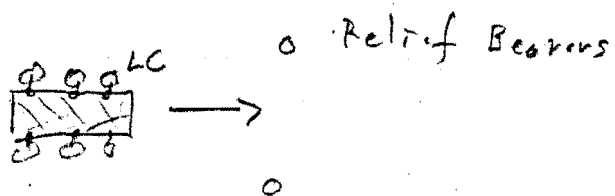

Figure 5.2. Litter Captain (LC): "Ready to rotate." Relief bearers stand off the trail.
rotation, described in figures 5.2 through 5.5. As was mentioned above, team members not actually carrying the litter should walk ahead of the litter. The two closest to the litter are designated relief bearers and should not get more than about ten meters ahead of the litter. When the litter captain (LC) decides a rotation is in order, he initiates the procedure described below, the two relief bearers are rotated in and the litter captain and right front are rotated out. The process is repeated as necessary to keep the litter team reasonably fresh. The entire procedure is carried out with the litter in motion.